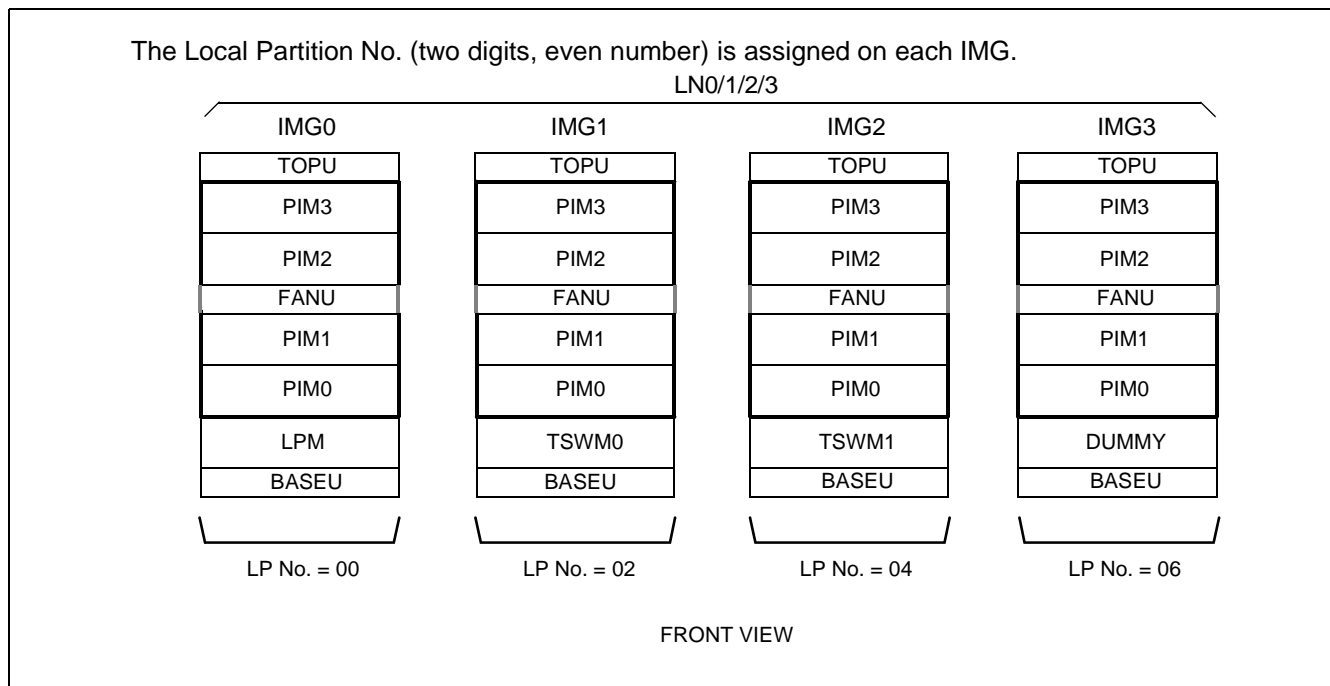

Figure 2-17 LP Number Allocations (LN0/1/2/3)
2.3 Local Partition (LP) Number
The Local Partition (LP) number refers to a logical local processor number, theoretically assigned for each IMG that consists of four (or less) Port Interface Modules (PIM). Though the local processor does not actually exist in any of the IMGs, except for IMG0, the system can apply the two-digit LP number to each IMG (see Figure 2-17) on its data memory program. The LP numbers are used primarily in the following cases: